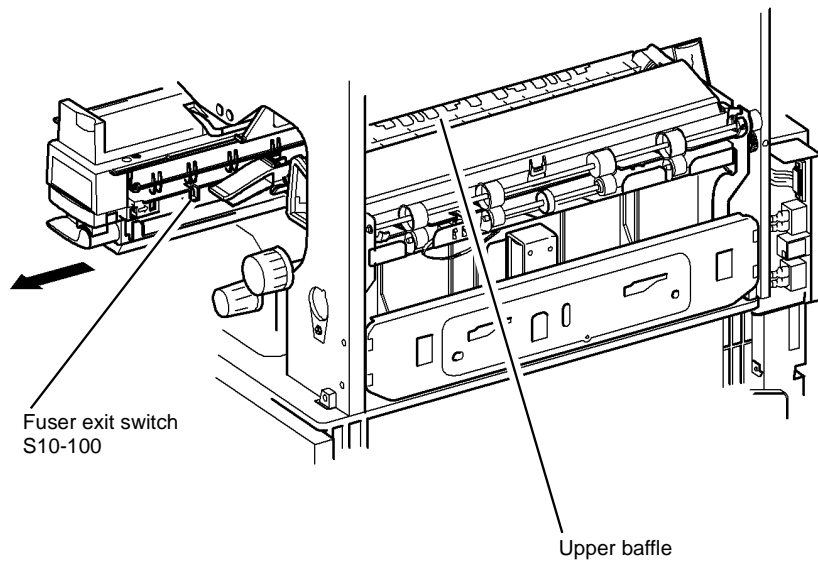

Figure 1 Component location
- Check for obstructions in the inverter area, **Figure 1**.